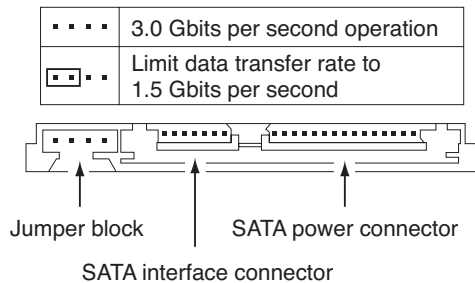

Figure 1. Serial ATA connectors
- Install a jumper as shown in Figure 1 below to limit the data transfer rate to 1.5 Gbits per second (and leave the drive connected to the SATA-equipped motherboard or host adapter that doesn’t support auto-negotiation) or
- Install a SATA host adapter that supports auto-negotiation, leave the drive jumper block set to “Normal operation” (see Figure 1 below), and connect the drive to that adapter. This option has the benefit of not limiting the drive to a 1.5 Gbits/sec transfer rate.